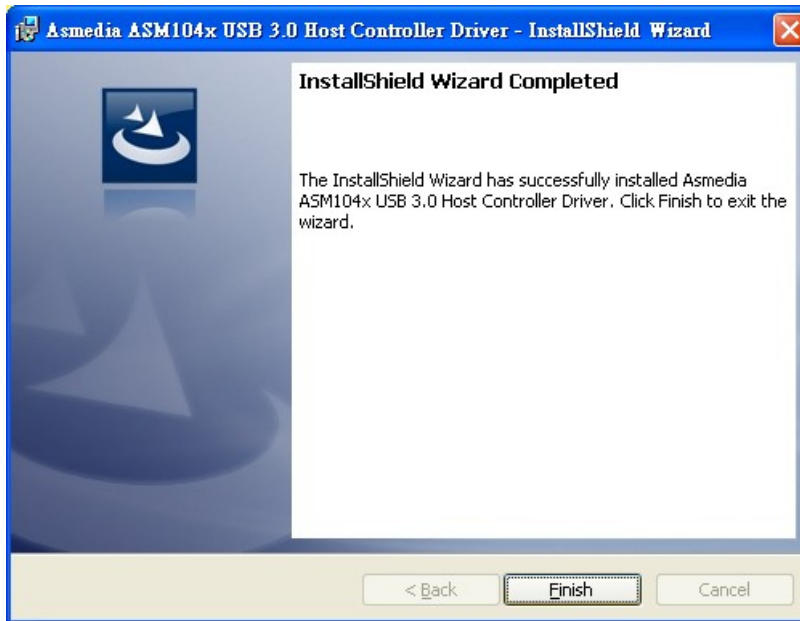

Figure 6-31: USB 3.0 Driver Update Complete
Step 9: When the installation is complete, click **FINISH** to exit setup. (Figure 6-31).